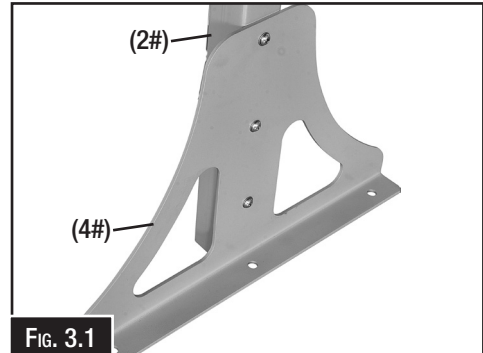

FIG. 3.1
2. Locate the two upright legs (2#) and the two leg braces (4#) and assemble with the M10 x 90 bolts flat washes lock washers and nuts. (Fig. 3.1)